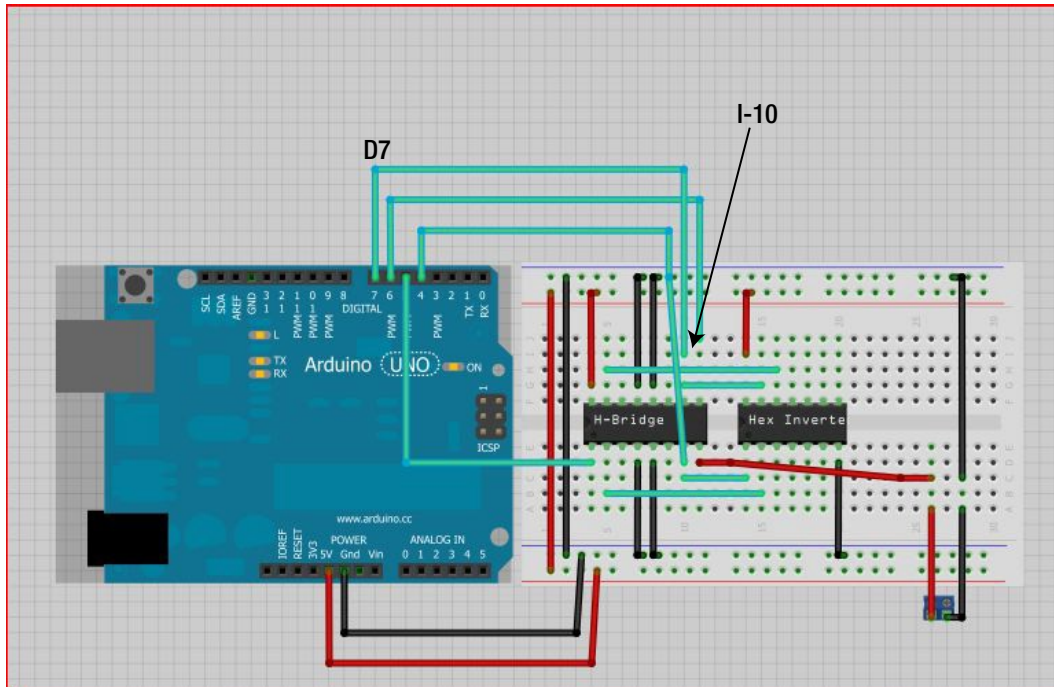

Figure 31-16. Connect digital pin 7 on the Arduino to I-10 of the breadboard
16. Connect digital pin 7 of the Arduino to I-10 of the breadboard. Figure 31-16 illustrates this process.